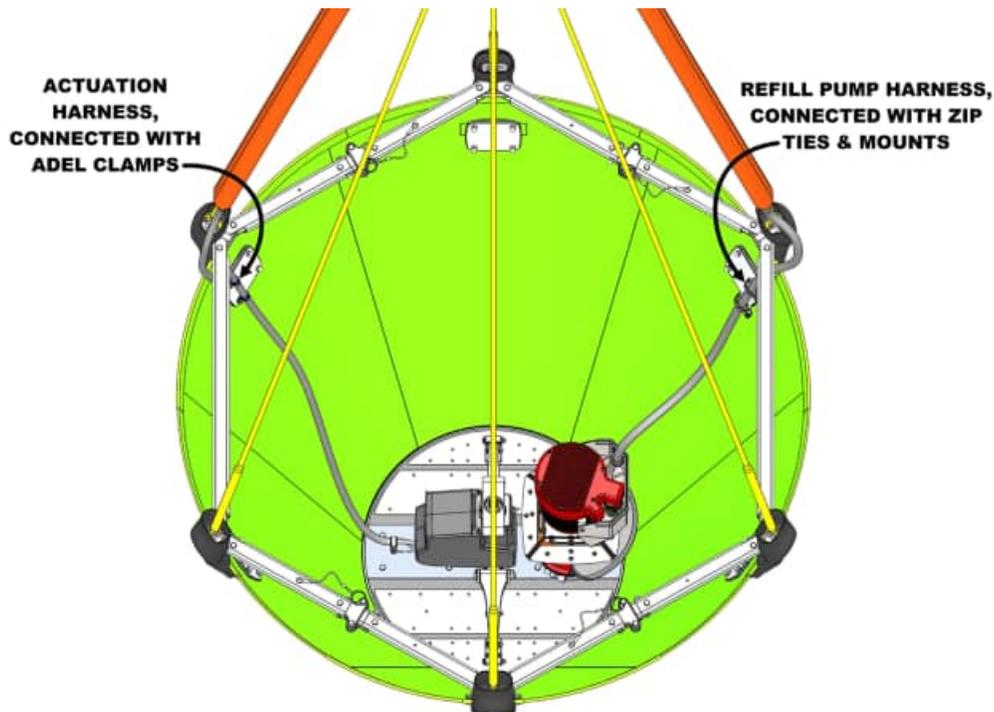

Figure 34 Skin Assembly Clocking
14. Bring the valve base to the bottom of the skin and tip it onto its side. Clock the skin so the Adel clamps and zip tie mounts are positioned as shown. See Figure 34.
24. Reroute the electrical harnesses. Reference Figure 34 as necessary.